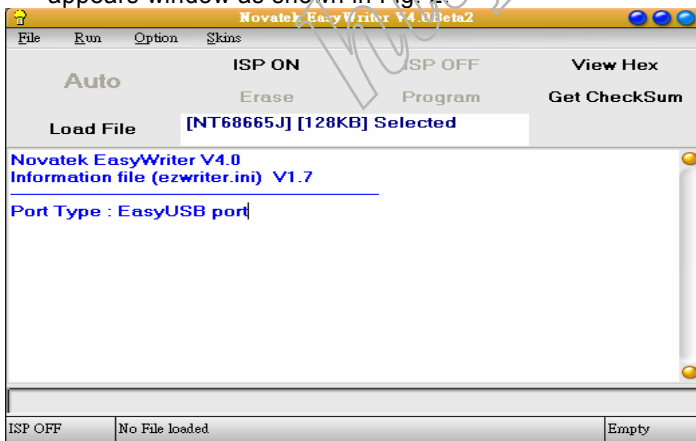

Fig. 2
2. Double click the ISP Tool. exe icon at the desktop then appears window as shown in Fig. 2.